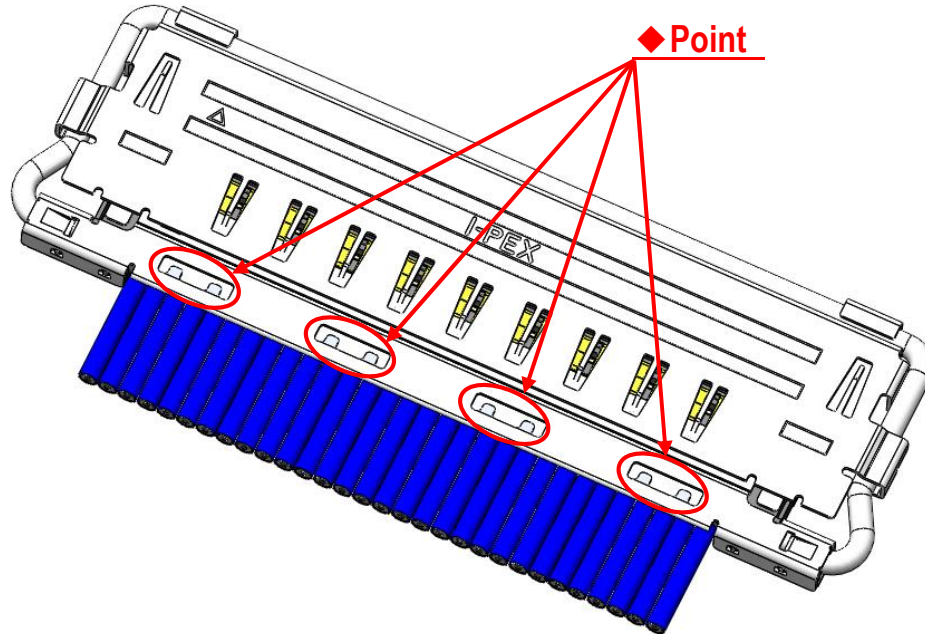

Fig.10 Soldering of Shell-A and Ground Bar
④ Soldering shell-A, B and ground bar with the soldering iron at all designated points is recommended. (Fig.10,12 ◆Point)